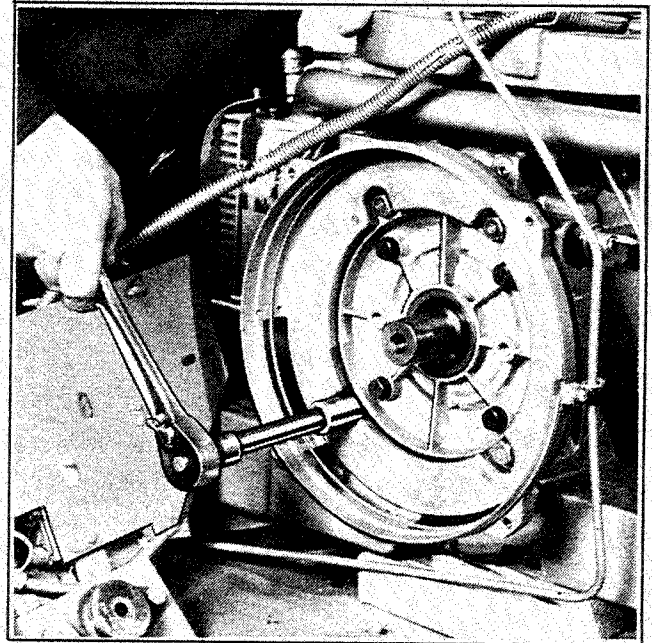

Figure 8-12. Removing Adapter Plate
20. Remove four adapter plate mounting bolts to separate adapter plate from engine. Figure 8-12.